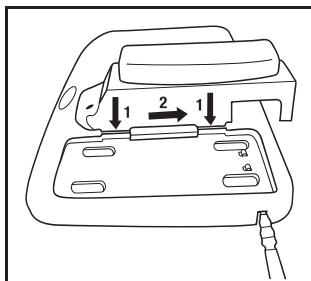

Fig. 1b
- 3M™ 4-Station Battery Charger Tray TR-944N: Insert the 3M™ Battery Charger Cradle TR-640 into one of the charging ports on the TR-944N and slide back to lock into place (Fig. 1b). (**NOTE:** The TR-941N power cord is not used with the TR-640, when the 4-station charger is used.) Insert the DC supply cord supplied with the kit into the 4-station base. Plug the power cord into an AC power source (100–240V), such as a wall outlet. You may charge any combination of up to four 3M™ Battery Packs simultaneously.